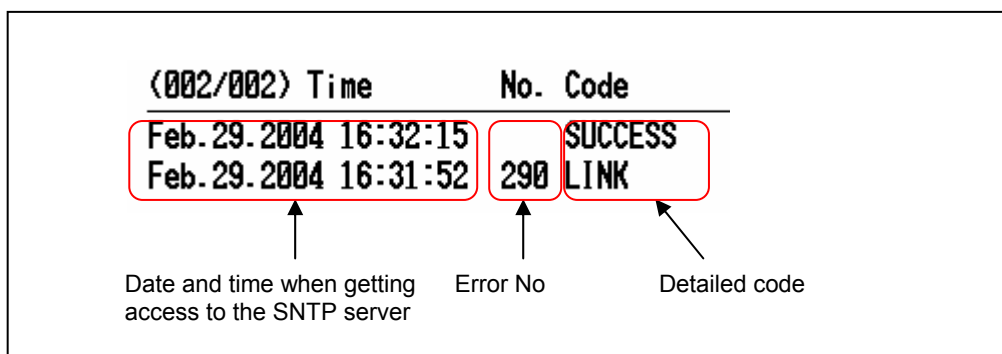

Fig. 5.3 Example of SNTP log screen
- Fig. 5.3 shows an example of the SNTP log screen.